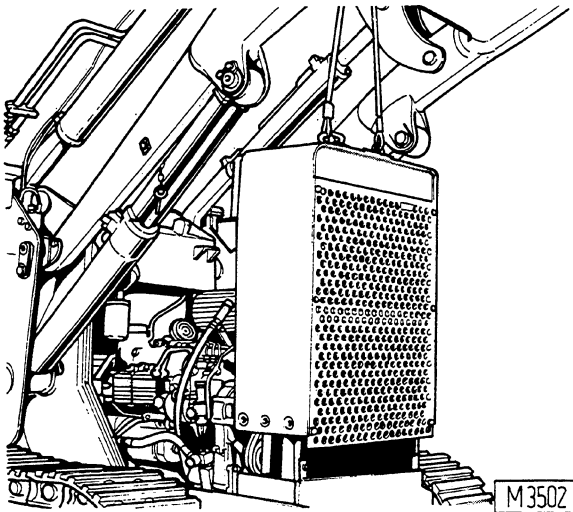

Fig.2-3.Removing radiator grill.
- remove radiator grill capscrews and withdraw grill using a hoist as shown in fig. 2-3;